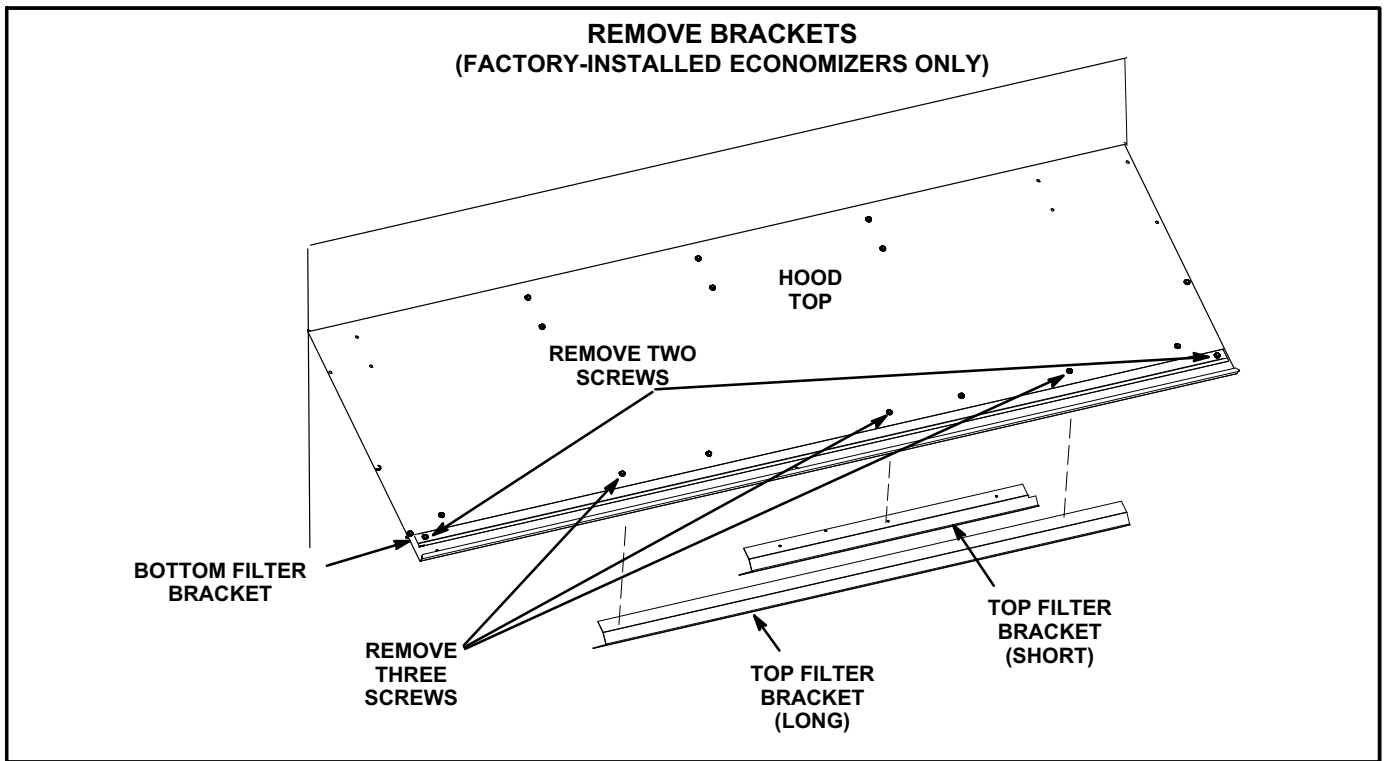

FIGURE 25
- 11- *Factory-Installed Economizers* - Remove the bottom filter bracket from the hood top assembly panel. See figure 25.
- 12- *Factory-Installed Economizers* - Remove the short and long top filter brackets from the hood top assembly panel. See figure 25.